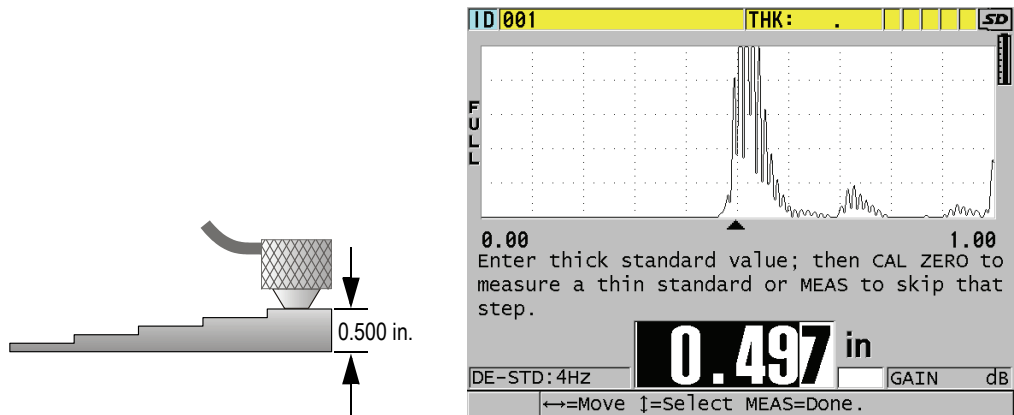

Figure 5-4 Performing the material sound velocity calibration on a 5-step test block
1. To perform the material sound velocity calibration (see Figure 5-4 on page 62):